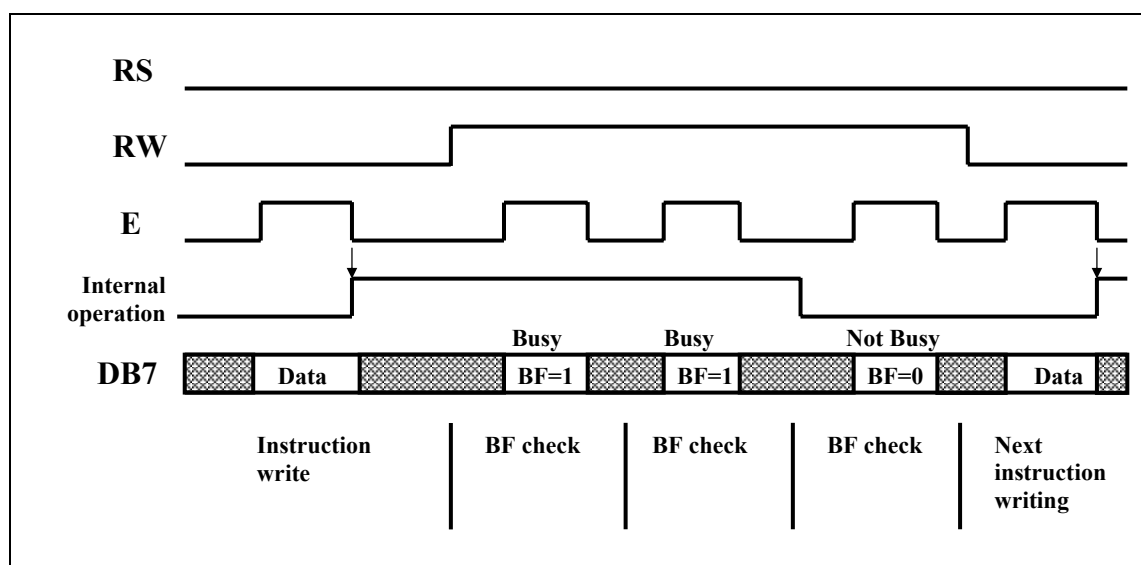

Figure 8. Example of instruction writing with Busy Flag check in 8-bit interface mode.
- By checking Busy Flag until its sets to 0. It is the most efficient way (see Figure 8 and 9).